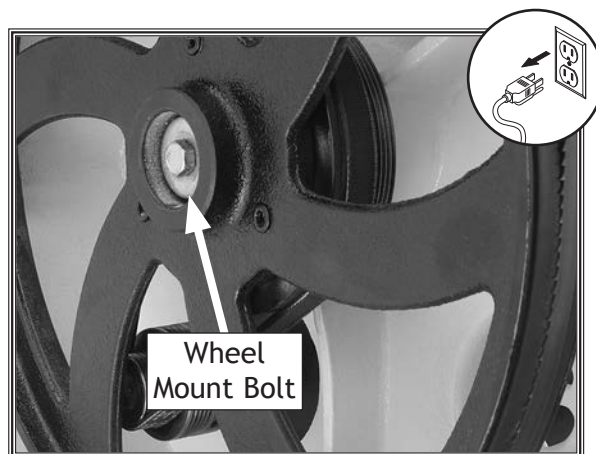

Figure 55. Lower wheel mount bolt.
4. Unthread the lower wheel mount bolt shown in **Figure 55**, then slide the lower wheel off of the bearing shaft.